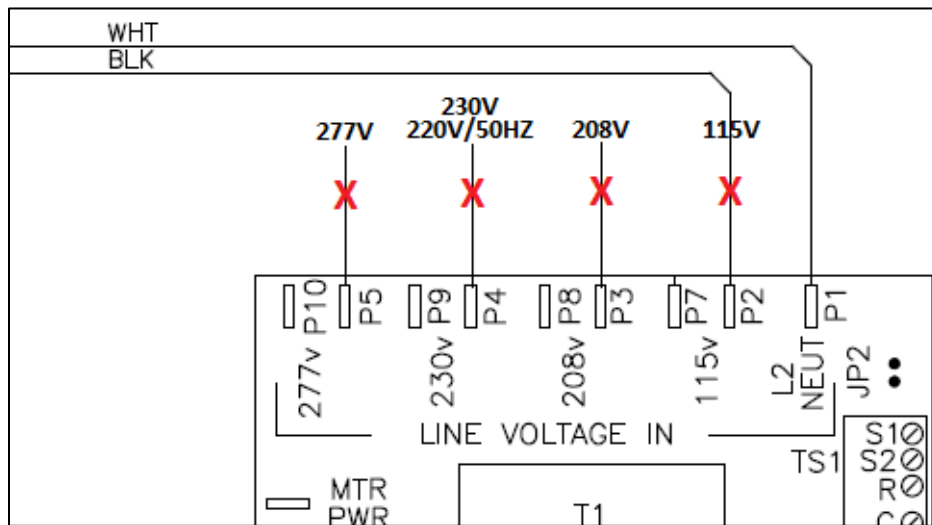

Figure 4 – Removing the FCRB incoming power
- b. Remove BLACK wire from the appropriate line voltage pin on FCRB. The wire's location will depend on the unit's voltage (see Figure 4):